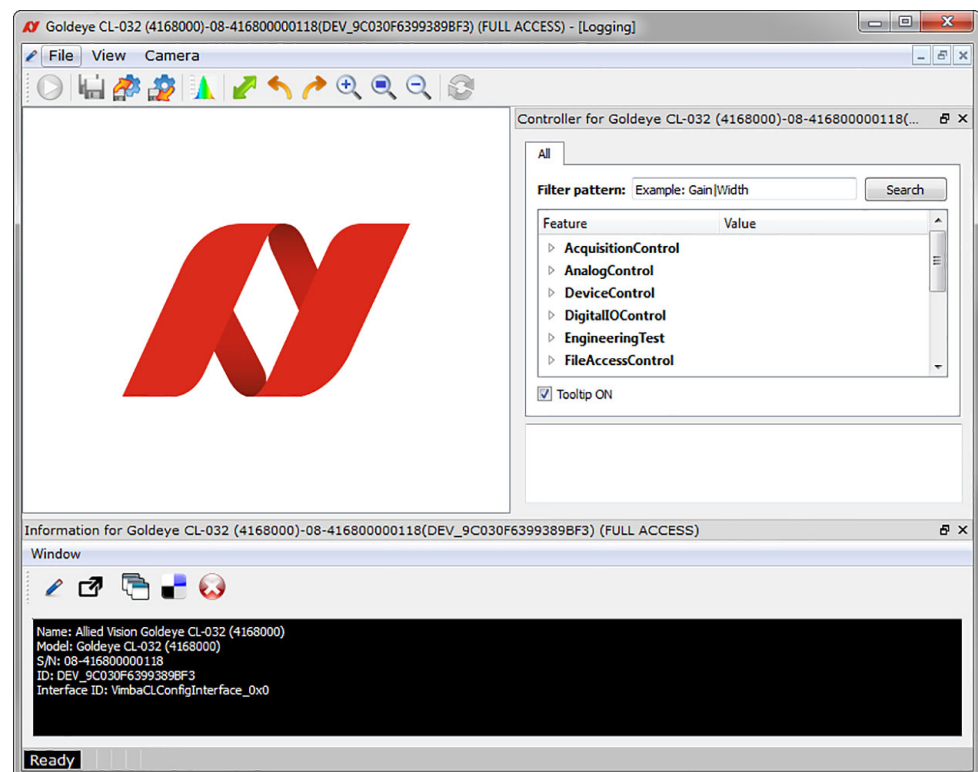

Figure 1: Vimba Viewer
4. A new camera window appears, as shown in Figure 1 .